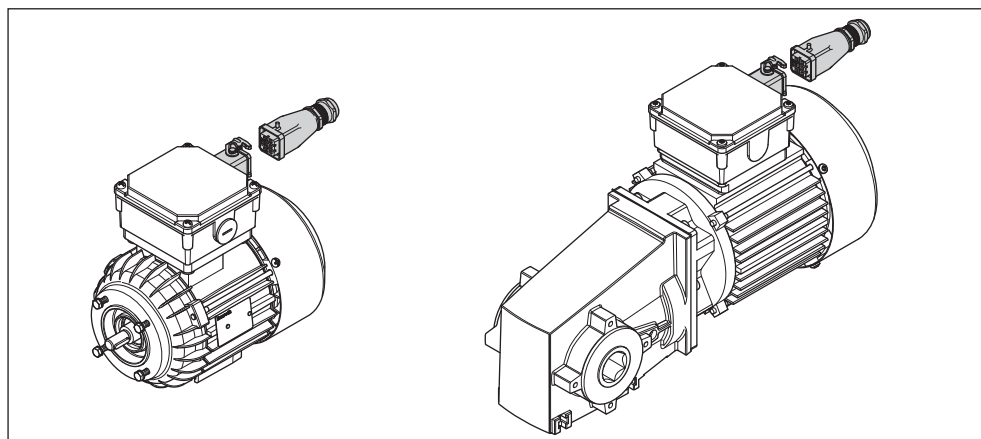

Fig. 32: Optional motor connection with plug (AT = S)
- Optional motor connection with plug (AT = S), see Fig. 32 on page 45. Observe the pre-fuse!